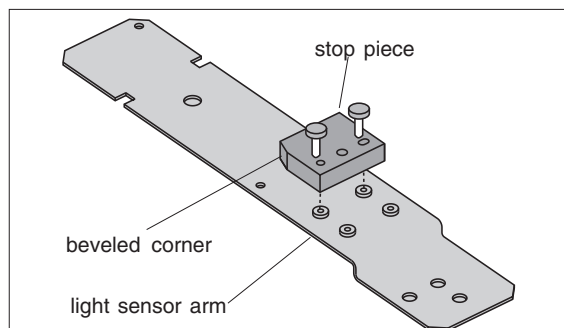

Figure 1: Attach the stop piece to the light sensor arm
The Prism Mount piece attaches to the top side of light sensor arm used in the OS-8539 Educational Spectrophotometer. The beveled stop piece attaches to the bottom side of the light sensor arm (Figure 1) and is designed to limit the range that the light sensor arm travels to less than 90 degrees from the reference line. The reference line is the straight path in which parallel rays of light travel from the light source through the collimating and focusing lenses. (To observe the position of the light sensor arm at the reference line, move the arm until the angle indicator reads 0 degrees.)
- a) Attach the stop to the light sensor arm using the two screws provided (Figure 1). Note the orientation of the stop. Position the beveled corner of the stop so that it will hit against the angle indicator on the spectrophotometer table.